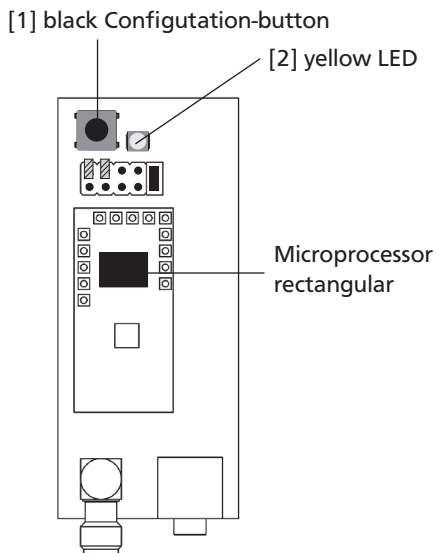

Fig. 5: PCB version 1 - Microprocessor rectangular, fixation above/below.
Please note: There are two versions of the PCB for the Radio remote V5 (see Figure 5 and 6). The Un-Pairing differs for the versions like described in the following.
– PCB with rectangular Microprocessor (Fig. 5):